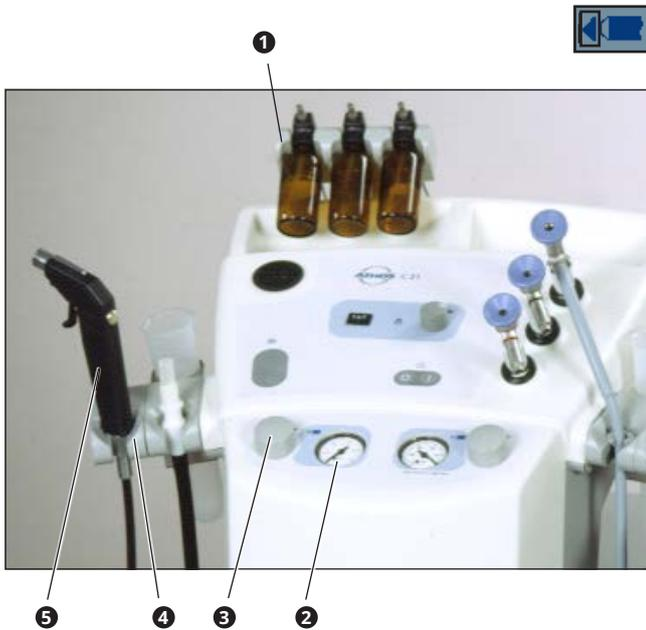

Fig. 17. Compressed-air system
- The amount of compressed air is adjusted with the control knob (3, fig 17) in conjunction with the compressed air gauge (2, fig 17).